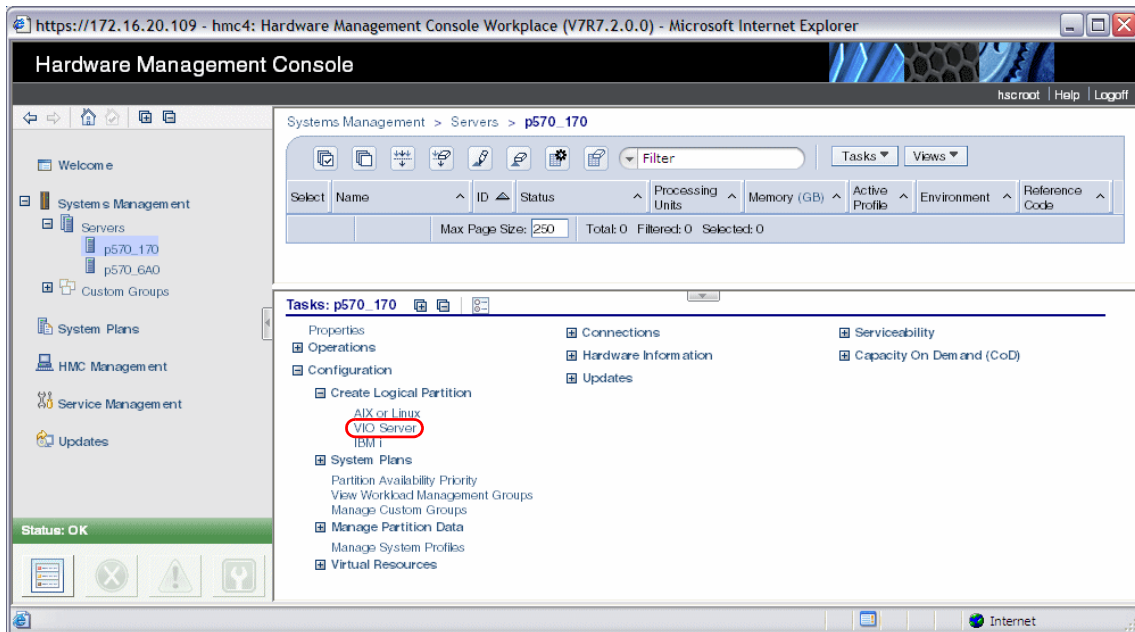

Figure 12-3 HMC Starting the Create Logical Partition wizard
1. Select the managed system **p570_170**, then select **Configuration** → **Create Logical Partition** → **VIO Server** as shown in Figure 12-3, to start the Create Logical Partition Wizard.